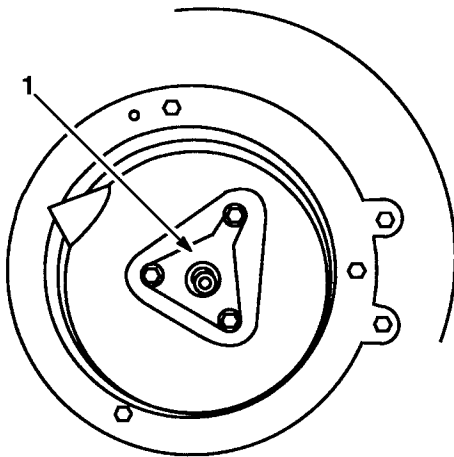

Figure 36
10. Install muffler and crankshaft support to engine mounting plate (Fig. 36).